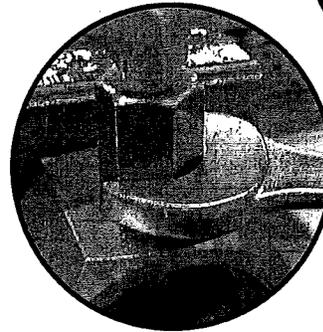
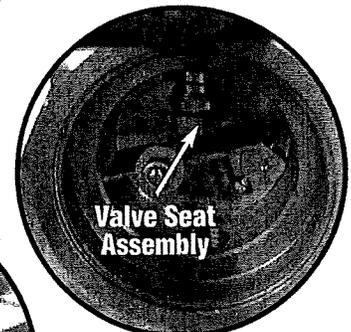

Figure 3
Figure 4
8. With a 3/4" hex wrench loosen the existing DVO, valve stem, and static seal (see fig. 3). Once the assembly is loosened, VERY CAREFULLY use needle nose pliers to hold the Valve Seat Assembly in place. Remove the existing DVO making sure the Valve Seat Assembly inside the L1200NDVO is aligned and straight (see fig. 4).